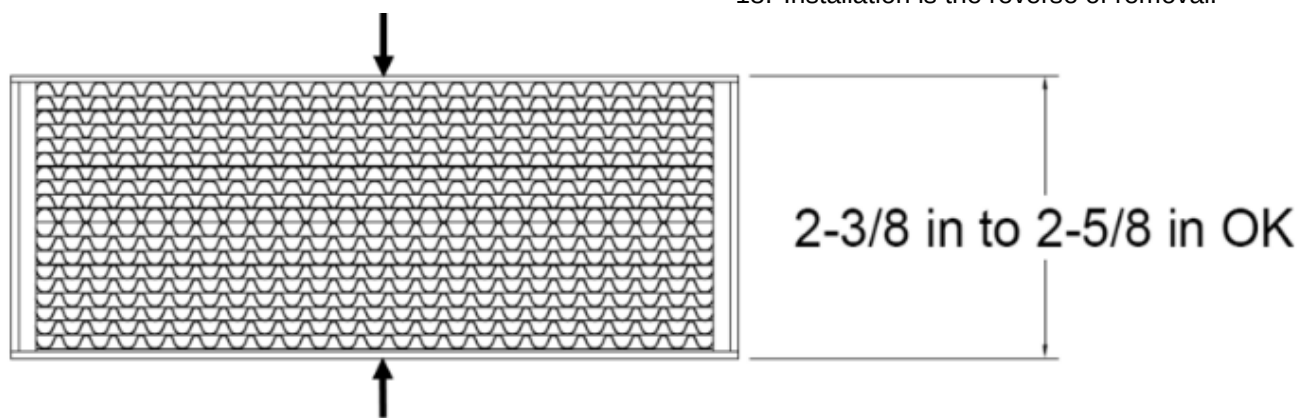

**Figure 21 - Acceptable Catalyst Distortion**
9. Some warping or bowing of the catalysts over time is acceptable, as long as the catalyst gasket continues to seal. Measure the catalyst in the middle section – if the dimensions are outside the range shown in Figure 21 above, replace the catalyst.